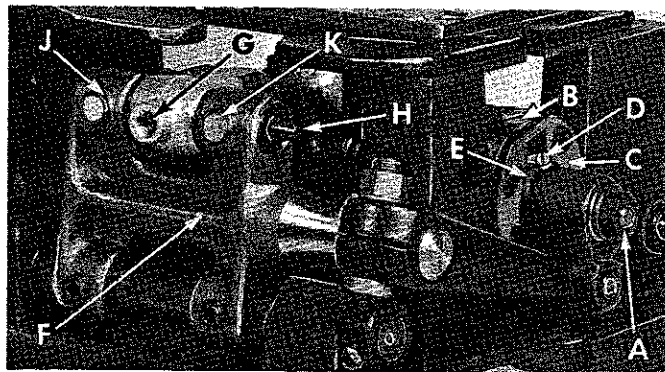

Fig. 10
Set the stitch to required length. This is accomplished by loosening the locknut (A, Fig. 10) 1/2 turn (it has a left hand thread) on the end of the stitch regulating stud and turning the stitch adjusting screw (B) located under the left end of the cloth plate, in the head of the mainshaft (C), which is marked with "L" and "S". Turning the screw clockwise shortens the stitch (moves stitch regulating stud toward the "S") and turning it in a counterclockwise direction lengthens the stitch (moves stitch regulating stud toward the "L"). Retighten the locknut securely.
The needle bearings in the feed rocker (F, Fig. 10) should be checked and lubricated once a year. This can be accomplished as follows. Loosen allen screw (G), and remove shaft (H). Now, repack bearings.
When packing bearings, the parts must be clean and grease should be applied directly from the tube to avoid contamination. Tube of grease can be supplied under the part number 28604 P. Greased bearings are located at (J, K, Fig. 10). If grease sealed bearings are replaced they should be pressed in flush with the casting. To assemble, start tapered end of shaft first, twisting slightly when entering the grease seals to prevent damage.